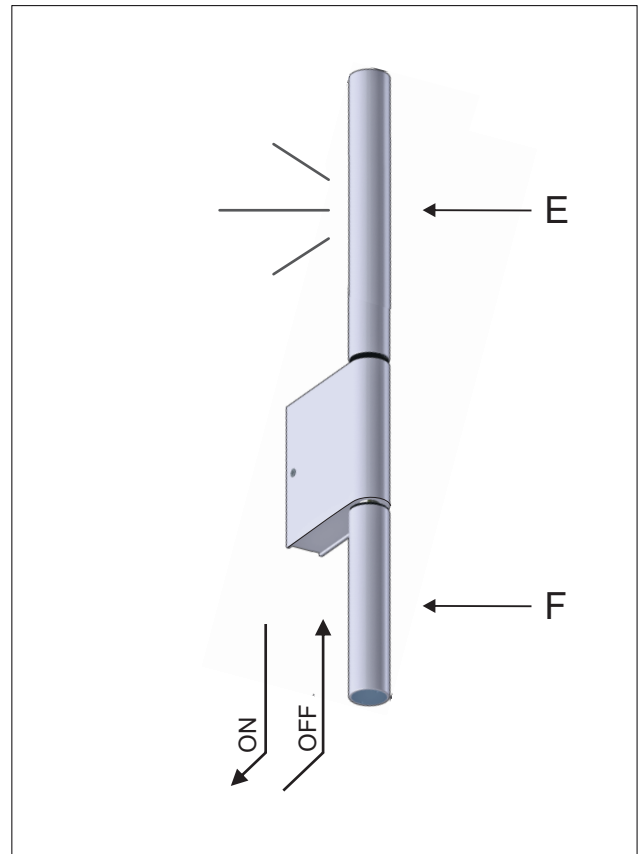

Figure 3 A
The wall switch of the room controls the general power of the lamp and the ambient light (E) but the reading arm (F) can be turned on by pulling and tilting the arm and turned off by returning it into place. Figure 3 A.